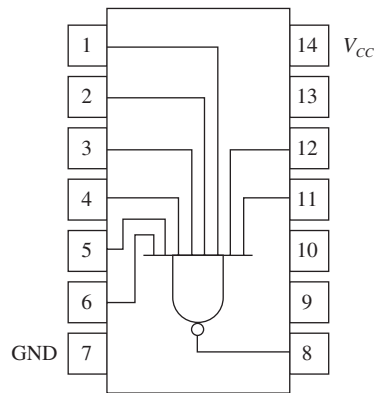

Figure P3–47
- T** **3–48.** The data table above was built by putting a logic probe on every pin of the 7427 NOR IC shown in Figure P3–48 while it was connected in a digital circuit. Which gates, if any, are bad, and why?